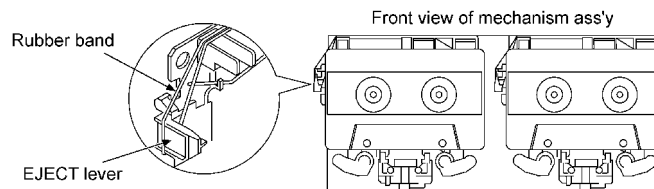

Fig. 2
1. Push up the EJECT lever with rubber band.(Refer to Fig. 2)
1. Push up the EJECT lever with rubber band. (Refer to Fig. 2)